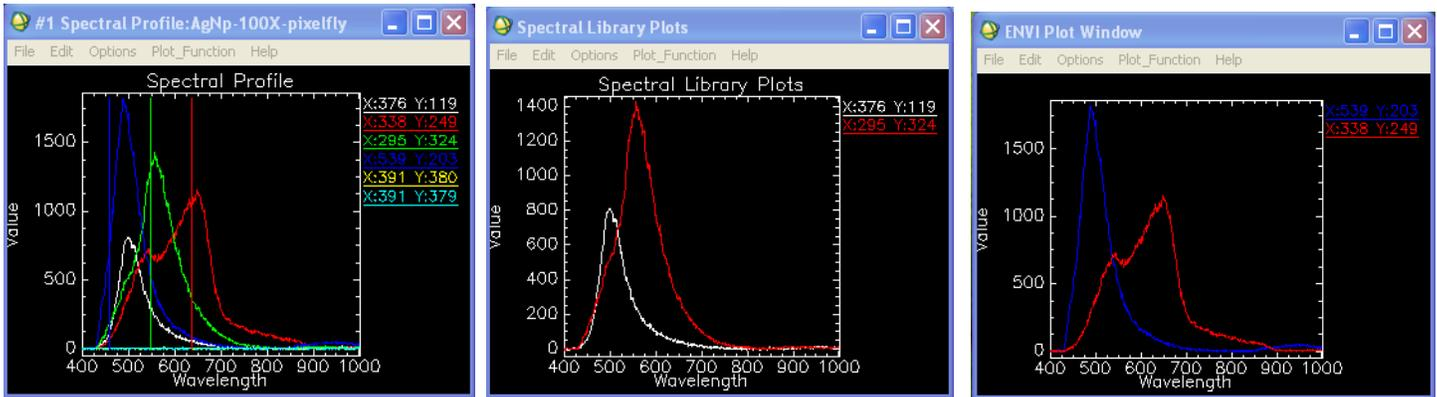

Figure 9.1f. Input Base Library, External Source Library and Filtered library
- Below are the spectral curves from the input Base Library, External Source Library and the Filtered Library (Figure 9.1f). The Input Base Library (left) containing four curves, two which are undesired, the External Library (middle) containing only the undesired curves, and the filtered Library (right) containing only the desired curves.